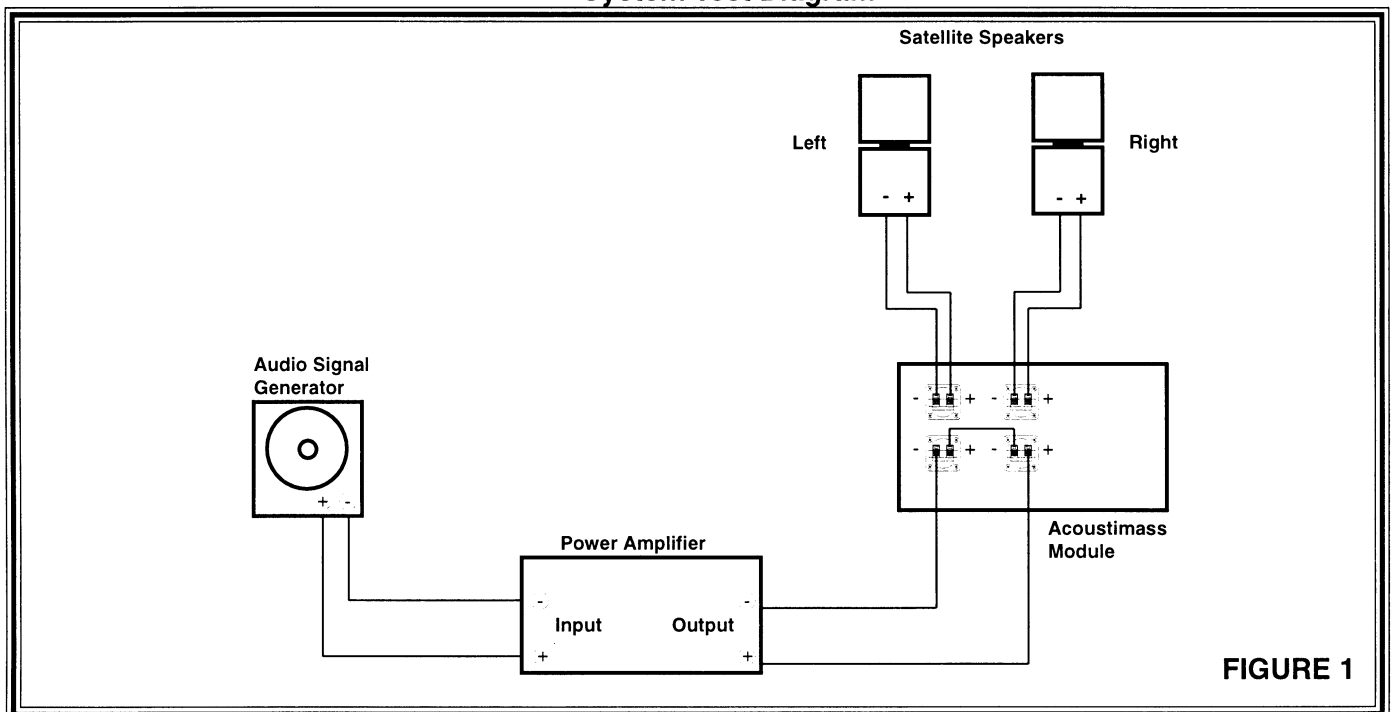

FIGURE 1
1. Woofer Rub and Tick Test: Since both left and right channel woofers are in the same enclosure, it is recommended that both speaker channels be tested simultaneously. See **Figure 1** for the following test setup.